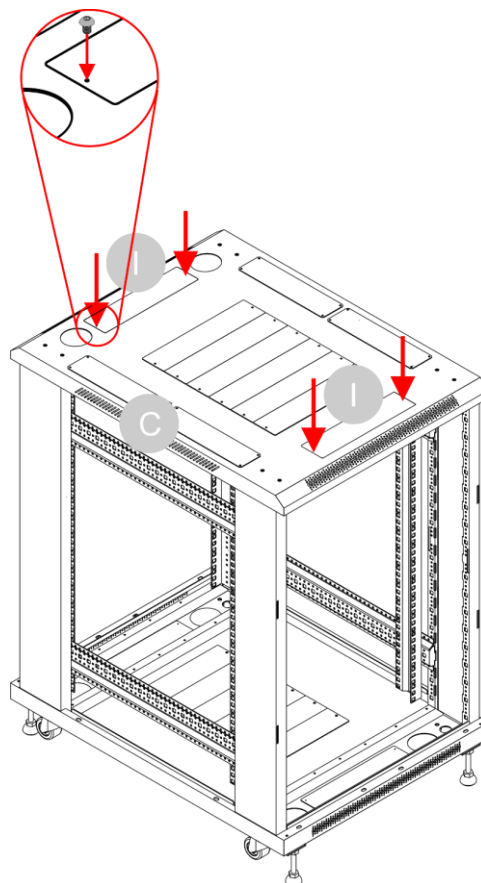

Fig. 34
- 18) Attach the 2 **metal plates (I)** to the **frames (B)** with 2 **screws (O)** per plate, as shown in Fig. 34.